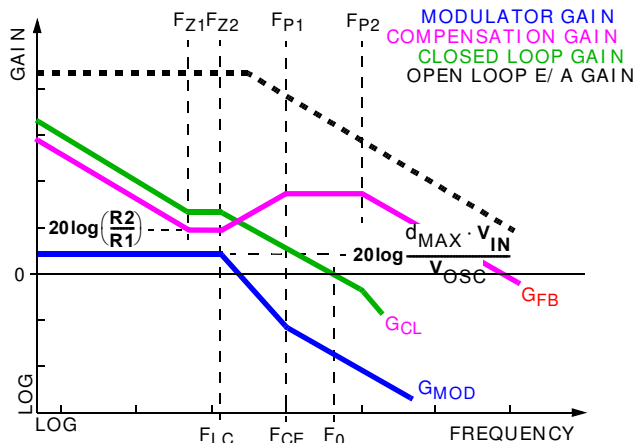

FIGURE 25. ASYMPTOTIC BODE PLOT OF CONVERTER GAIN
Figure 25 shows an asymptotic plot of the DC/DC converter's gain vs frequency. The actual Modulator Gain has a high gain peak dependent on the quality factor (Q) of the output filter, which is not shown. Using the previously mentioned guidelines should yield a compensation gain similar to the curve plotted. The open loop error amplifier gain bounds the compensation gain. Check the compensation gain at  $F_{P2}$  against the capabilities of the error amplifier. The closed loop gain,  $G_{CL}$ , is constructed on the log-log graph of Figure 25 by adding the modulator gain,  $G_{MOD}$  (in dB), to the feedback compensation gain,  $G_{FB}$  (in dB). This is equivalent to multiplying the modulator transfer function and the compensation transfer function and then plotting the resulting gain.